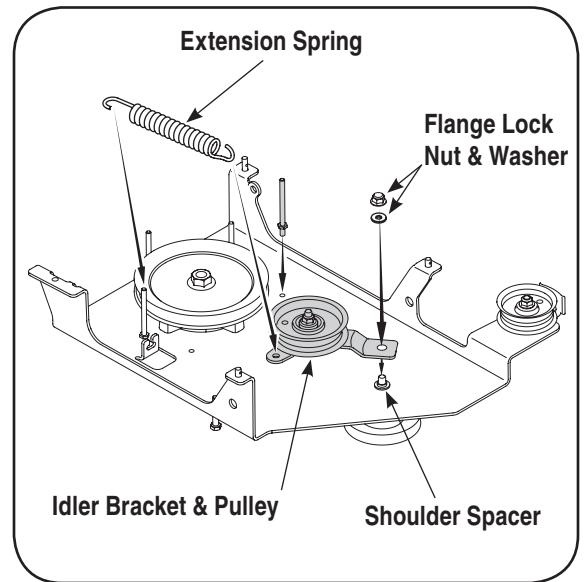

Figure 8
2. Remove the flange nut and washer noted in Figure 8, which secures the double-idler bracket to the undercarriage. Leave the Shoulder Spacer in place.
3. Attach the idler assembly (packaged separately) over the hex screw and shoulder spacer on the surface of the undercarriage. See Figure 8.
4. Fasten the idler bracket to the undercarriage with the hardware just removed. See Figure 8.
5. Attach one end of the extension spring (732-0594A) to the hole in the idler assembly just mounted and the opposite end of the extension spring to the keeper pin as illustrated in Figure 8.